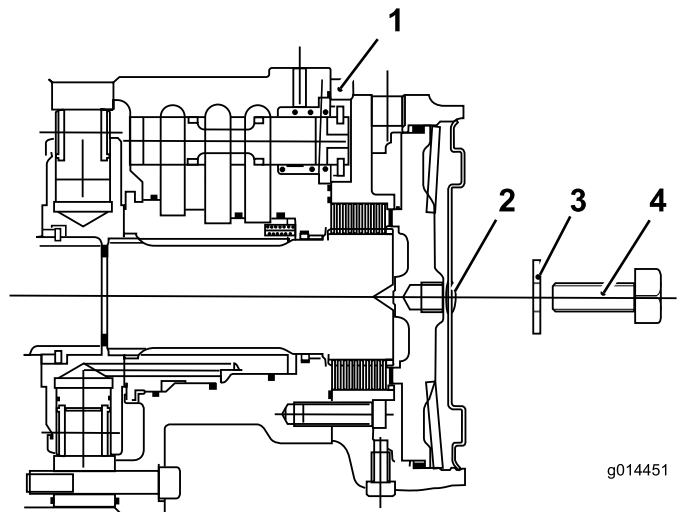

Figure 42
6. Assemble a bolt 12 x 40 mm and washer 12 mm into the hole at the center of the motor end plate (Figure 42).
7. Tighten the bolt in the threaded hole in the brake piston until the brake releases (Figure 42).